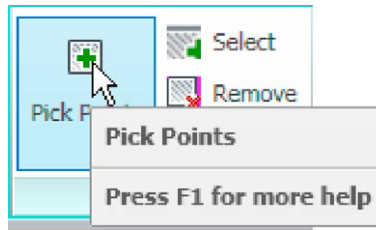

Fig. 7.15 Select **Pick Points** from the **Hatch Creation/Boundaries** panel
4. In the **Hatch Creation/Boundaries** panel *left-click* the **Pick Points** icon (Fig. 7.15).